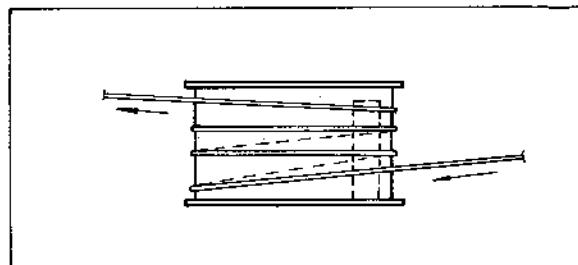

Fig. 2-10 Wrapping the dial cord
3. Turn in the inner groove. See Fig. 2-10.
groove as shown in Fig. 2-10.